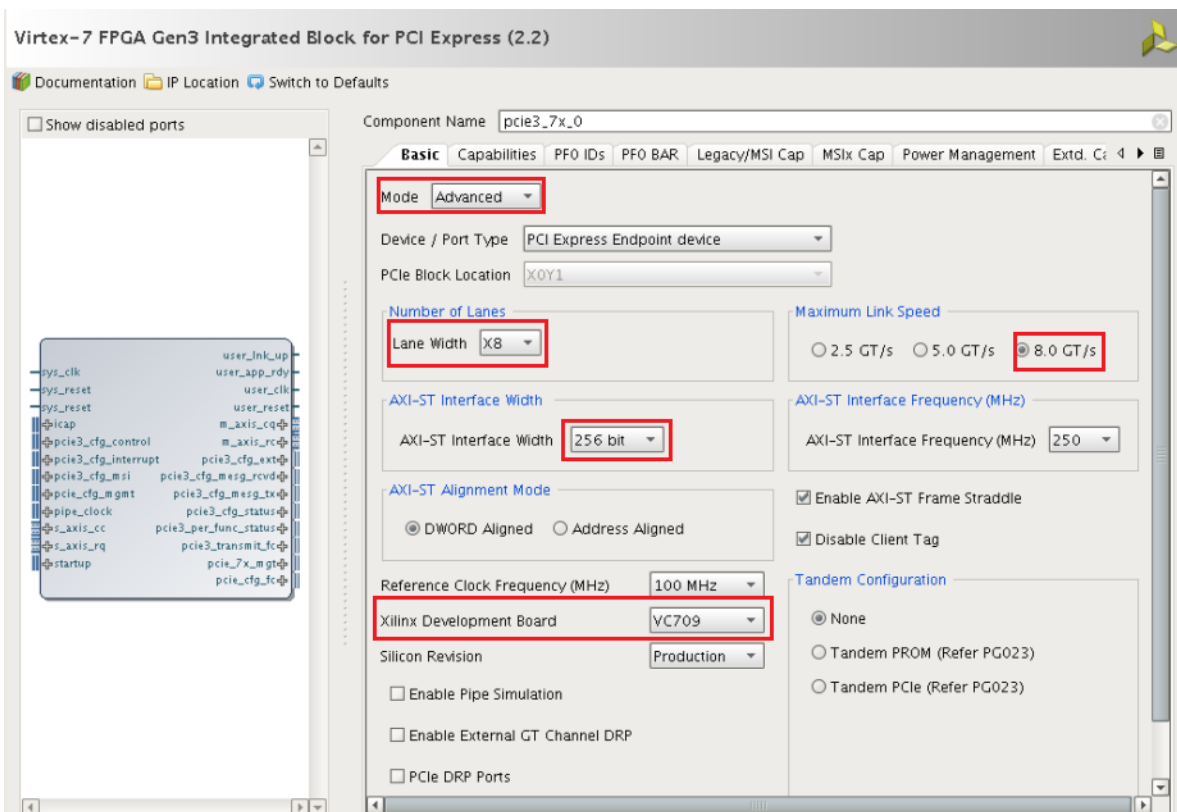

Figure 11: Basic Tab
5. In the **Basic** tab (Figure 11):